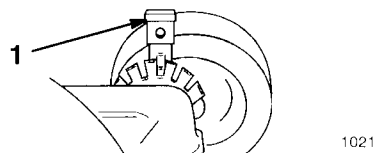

Figure 17
1. Pull the wheel height adjustment lever toward the wheel and move it to the desired position (Fig. 17).